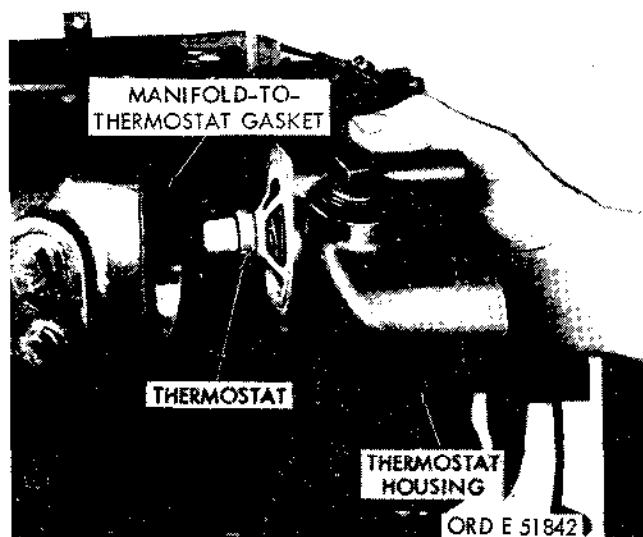

Figure 2-137. Removing thermostat housing and thermostat—multifuel models.
- (4) Loosen the two clamps securing the thermostat housing-to-water pump hose (fig. 2-137).
- (5) Remove the thermostat housing assembly with the thermostat installed.
- (6) Remove and discard the intake manifold-to-thermostat housing gasket.
- (7) Remove the thermostat from the thermostat housing assembly (fig. 2-137).
(3) Tighten the clamps to secure the thermostat housing-to-water pump hose (fig. 2-137).